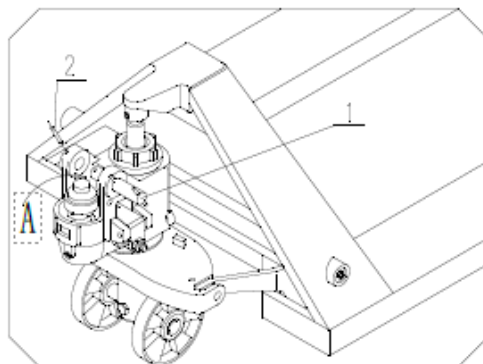

Figure 1.
- 3.1 See fig 1, pull out the pin roll 1.